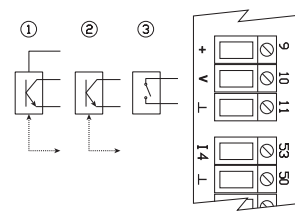

Fig. 15
What is more, there is a possibility of connecting the flow transducer communication cable to the signal input – the fourth additional input (53). Fig. 15 shows the method of connecting flow transducers with open collector output for the transducer requiring power supply from the calculator (1), open collector output (2) and normally open contact output (3).